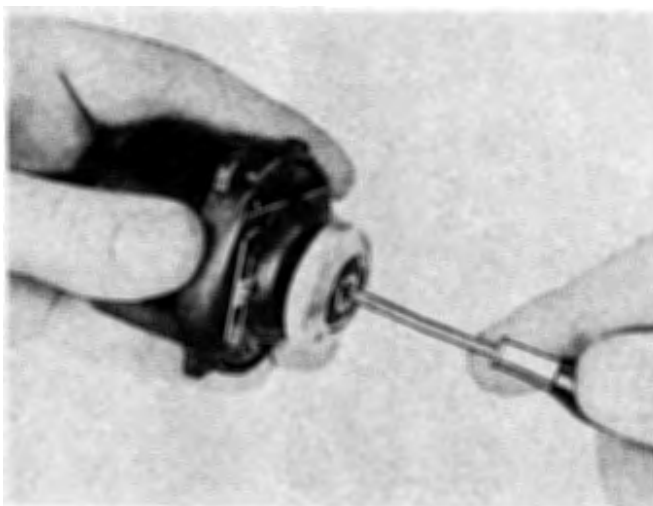

Figure 34
b. Take out the fillister-head machine screw and lock washer (figure 34), and remove the rotor from the housing.